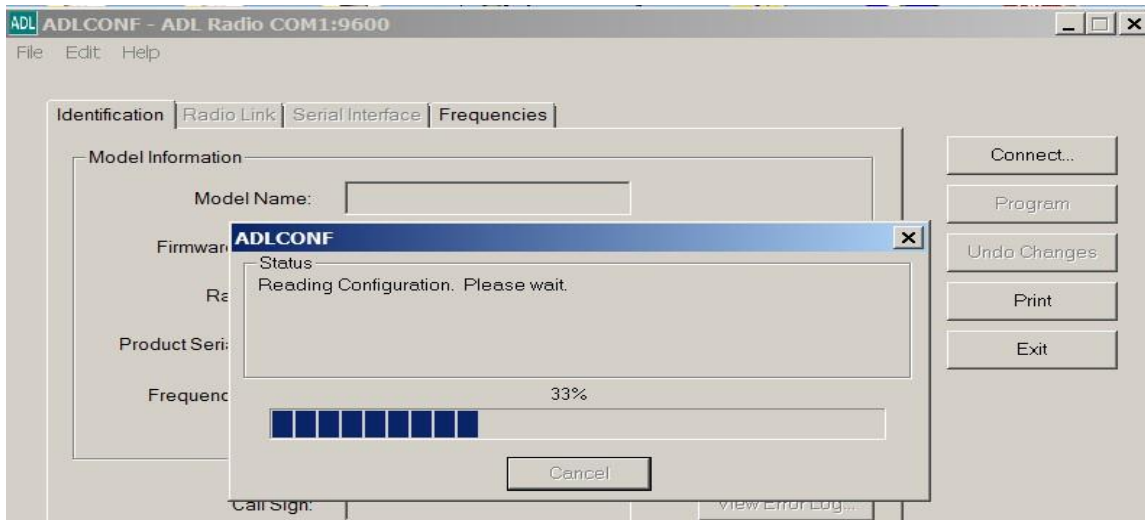

Figure 12: Reading Configuration Window
10) Figure 12 (Page 25) shows the configuration being read.